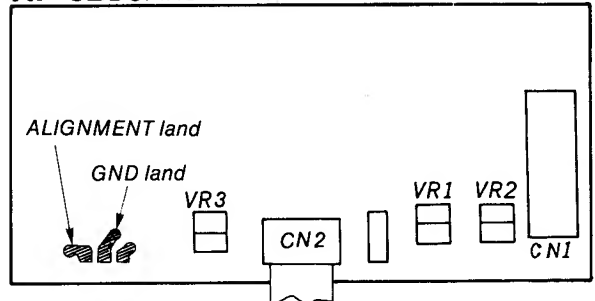

Fig. 7-42.
Measurement Point	Both ends of VR1 (Refer to Fig. 7-42)
- 1) Connect ALIGNMENT land (Pin ④) of IC2 and GND for an instant and set to adjustment mode. (Refer to Fig. 7-42.)